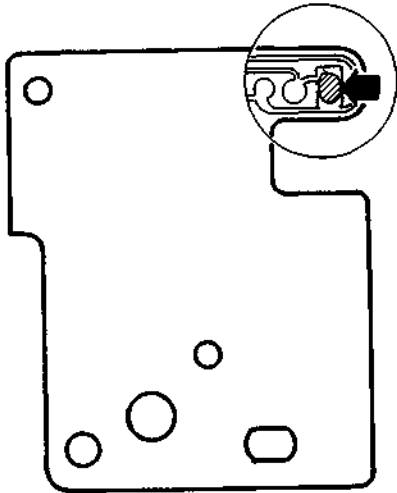

Fig. 5-1
*Note: When connecting or disconnecting the connectors, make sure that the P.C. Board (on the Pick-Up Block) has to be shorted circuit as shown in Fig. 5-1. Do not turn the electricity "ON" while it remains shorted-circuited.